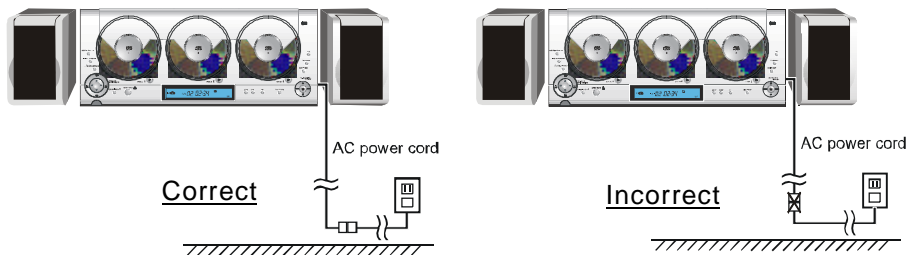

Figure 2
- If there is no AC outlet directly below the desired mounting location you may use a UL approved extension cord. In this case you should allow the AC plug of the main unit to reach all the way to the floor and connect the extension cord on the floor, not above the floor. See Figure 2.